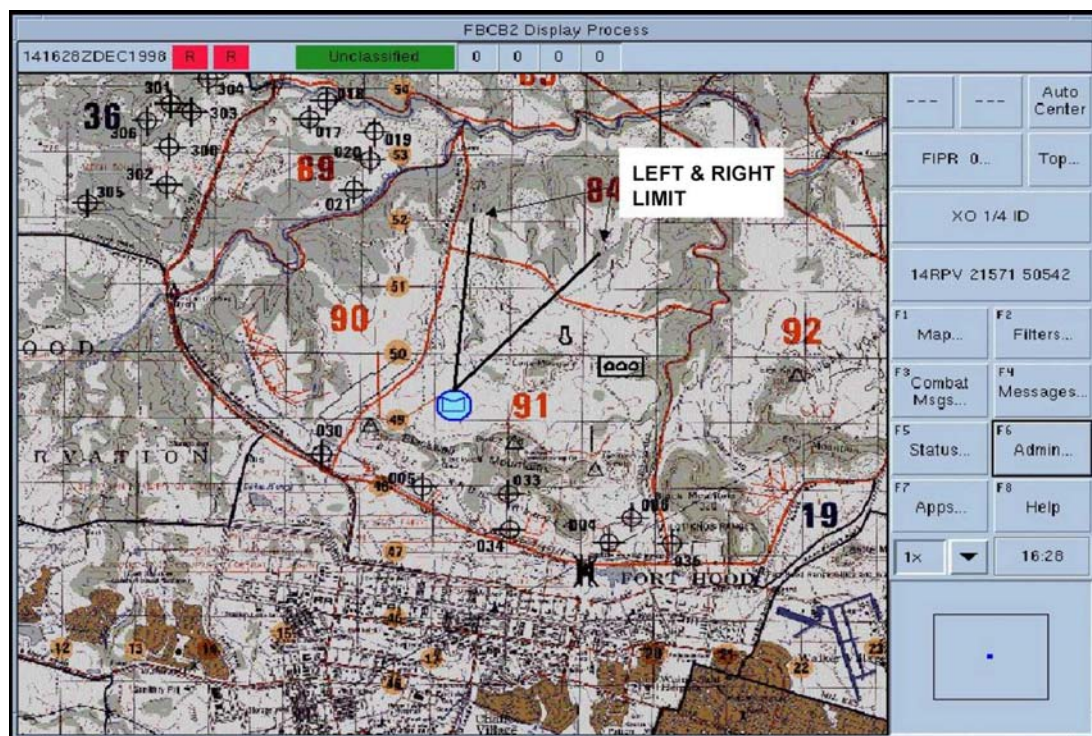
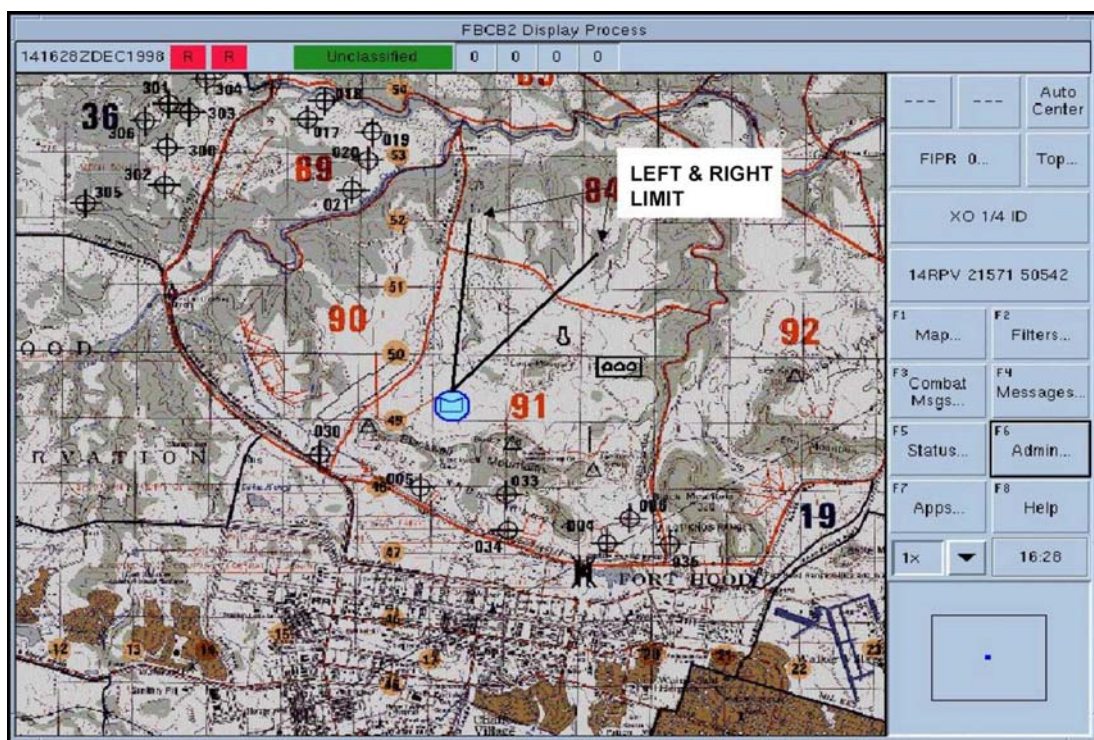

Figure 7-20. Example of digital range card showing left and right sector limits.
Figure 7-21. Example of digital range card showing maximum engagement lines.
a. You can create a digital map and overlay. On this digital map, use the mouse or keyboard to draw lines to represent the left and right limits for both primary and secondary sectors of fire (Figure 7-20). You can then add digital icons for maximum engagement lines and target reference points (Figures 7-21 and 7-22, page 7-36), reference points, and weapon reference points.